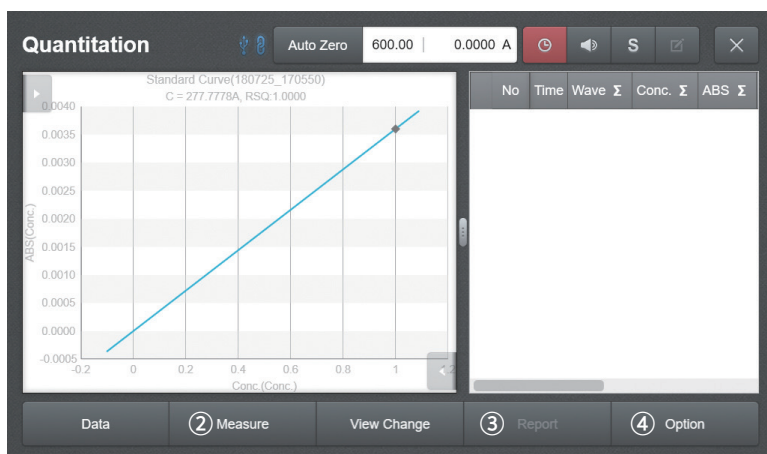

Fig. 4.17
11. [Fig. 4.17] Click ④ **Option** to enter and apply the name, cell type, unit, dilution rate, and memo.
12. [Fig. 4.17] Press ② **Measure** and take measurements after setting the options.
13. [Fig. 4.17] Move to ③ **Report** to check or print the measurement data in report form.